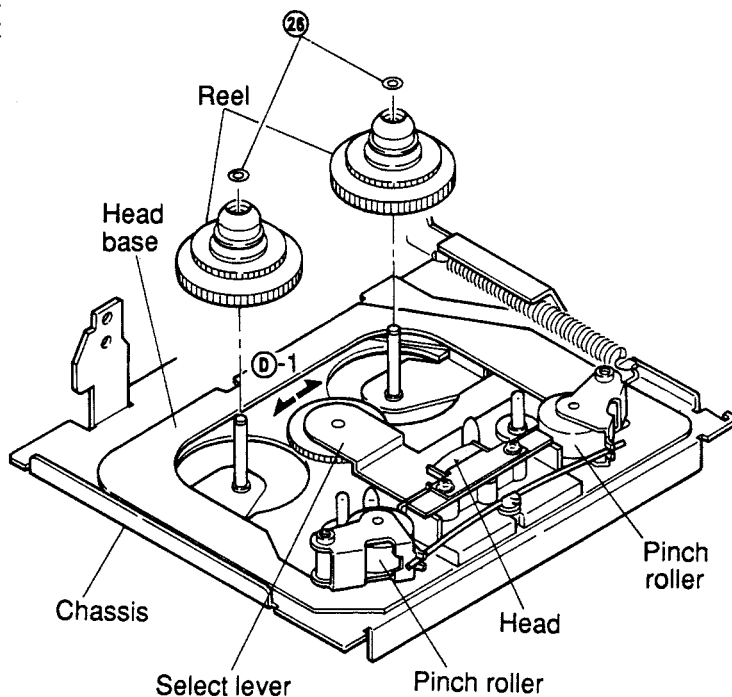

Figure 19
- (1) Remove M1.7 lock washers ②⑧ (Refer to figure 19).
- (2) Move the select lever in the direction marked ①-1 in the Figure and remove the reel by gripping the reel gear as shown in Figure 19.
- (3) After replacement, mount the new reels following the removal steps in the reverse order.
- (4) After mounting, check the tape speed and the wow and flutter with test tape MTT-III.